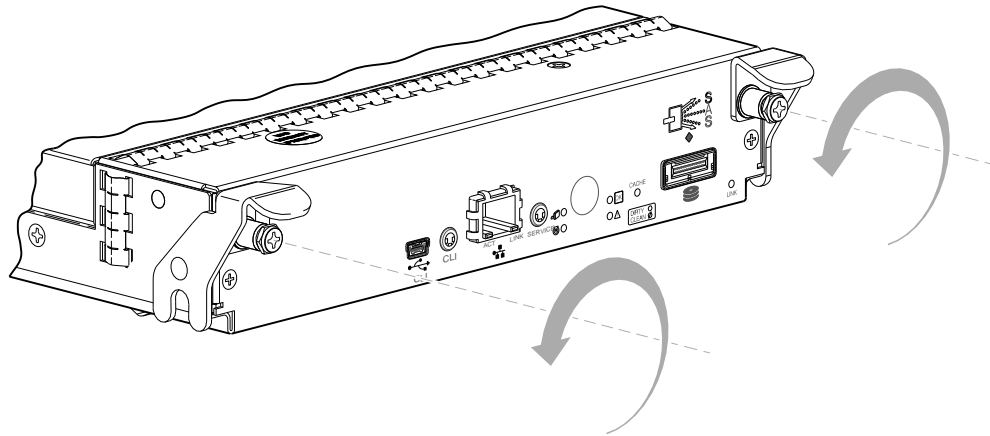

Figure 1 Disengaging a controller module
- 4 Turn the thumbscrews counterclockwise until they disengage from the controller (see Figure 1).